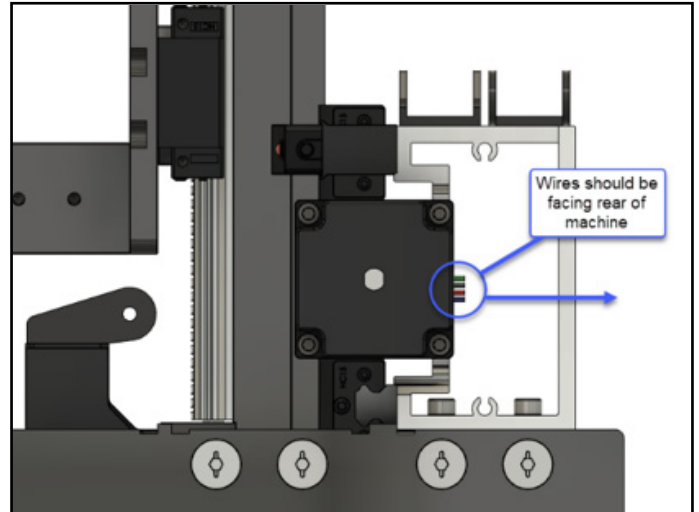

Figure 2-3
- a. Motor wires face the rear of the machine. See **Fig. 2-3**.